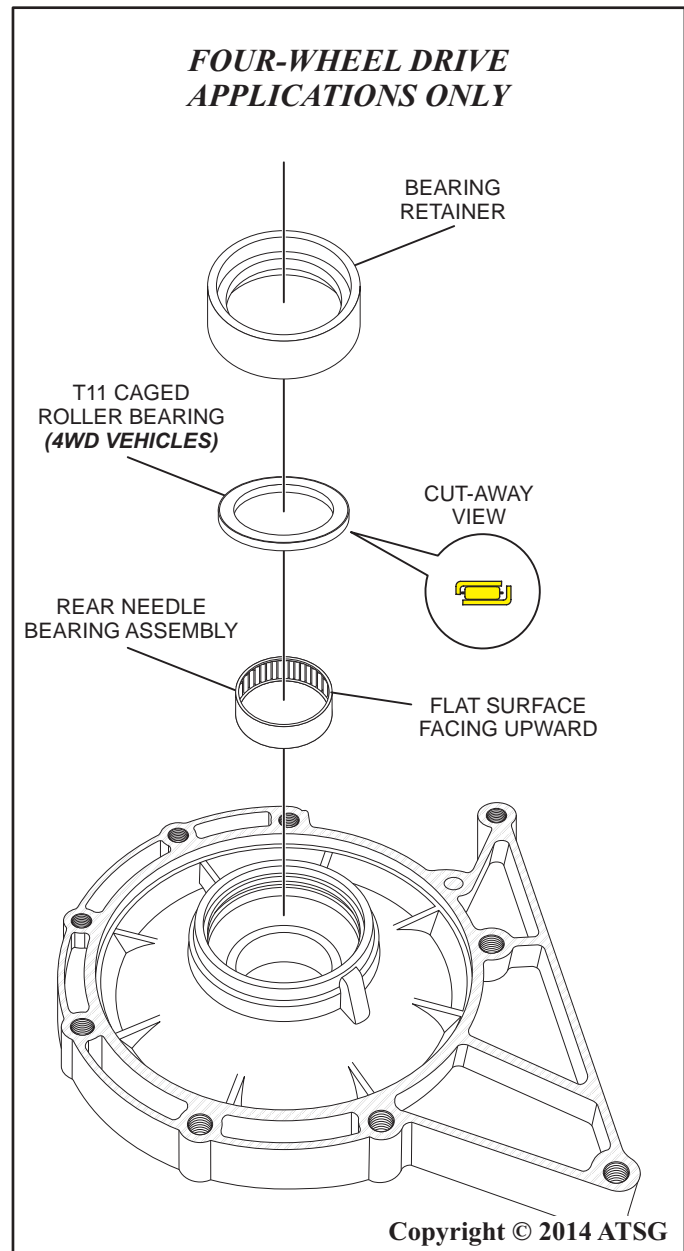

Figure 132
4. Install the bearing with the flat surface facing upward as shown in Figure 132.
5. Install the T11 caged roller bearing and the bearing retainer as shown in Figure 132.